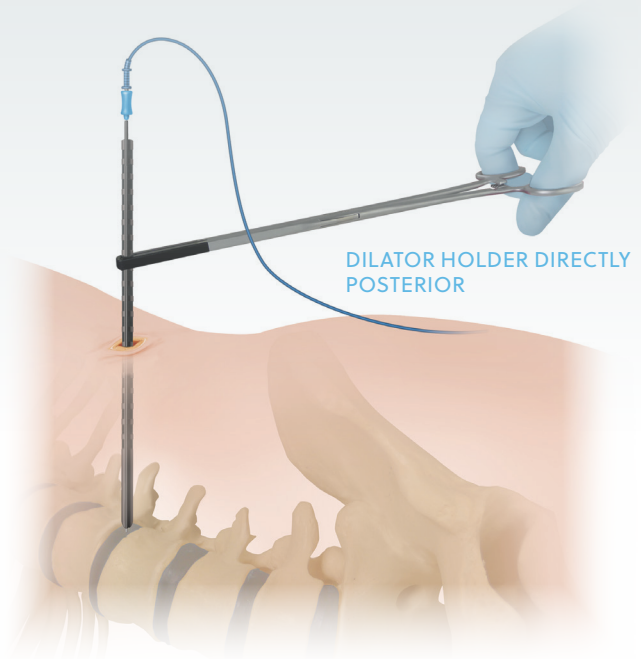

Figure 13b
- Use the initial dilator holder to maintain the position of the dilator; confirm the dilator is still in an acceptable position using lateral fluoroscopy (**Figures 13b, c, d**).